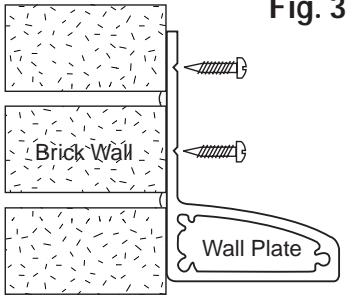

Fig. 3
Step 1: Fit the aluminium wall plate (Ref. 290). The wall plate can accommodate all Twinfix bar systems at angles ranging from 5 degrees to 25 degrees (Fig. 3). Fix the end plate for a neat finish to the end of the wall plate.